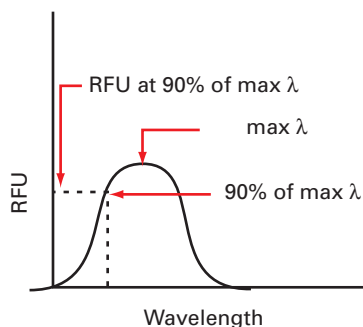

Figure 4-1 Plot of RFU vs. wavelength.
- ◆ Select the optimal excitation wavelength. If the excitation peak wavelength and emission wavelength are separated by more than 80 nm, use the excitation peak wavelength value. If the excitation and emission wavelengths are less than 80 nm apart, use the shortest excitation wavelength that gives 90% maximal emission. (Follow the plot to the left of the peak until the RFU value falls to approximately 90% of the maximum, and then drop a line from the 90% point on the plot to the x-axis—see Figure 4-1.)